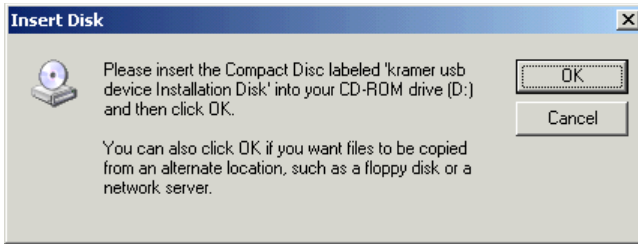

Figure 6: Insert Disk Window
20. In the **Insert disk** window, click **OK** as shown in Figure 6.